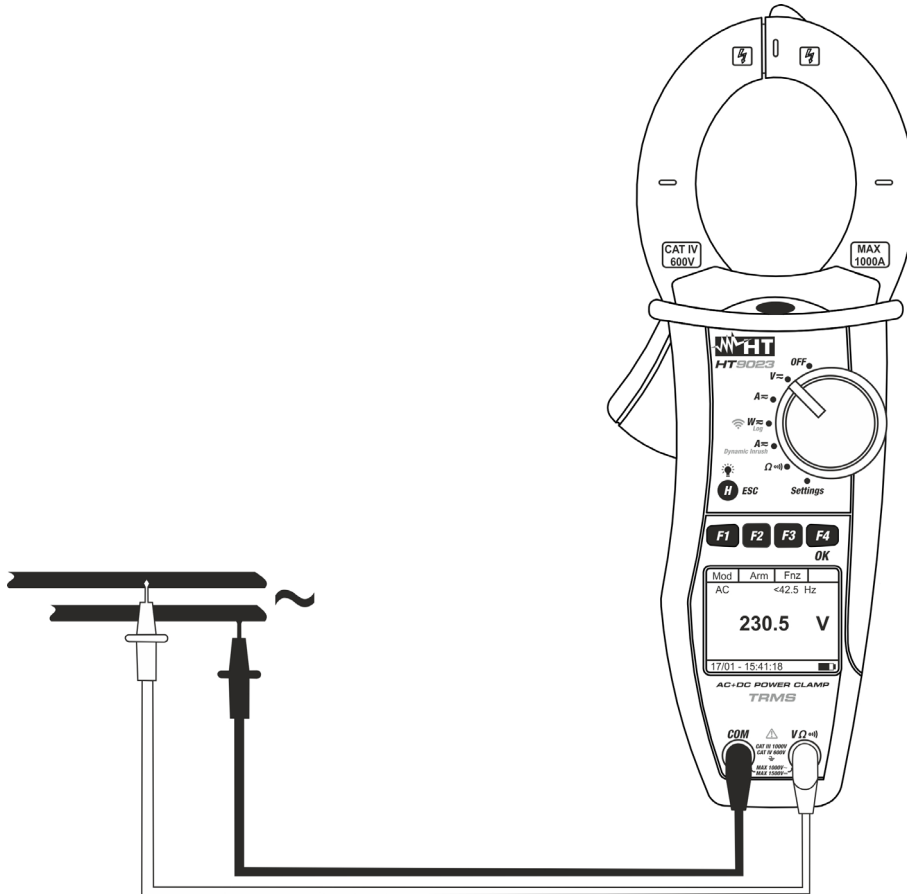

Fig. 6: AC and AC + DC voltage measurement
4. Connect red cable to input lead **VΩ⁾⁾⁾** and black cable to input lead **COM** then position the leads to the desired points of the circuit under test (see Fig. 6)